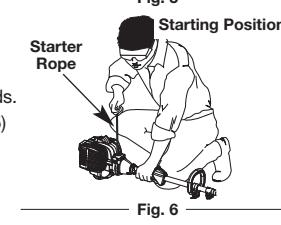

Fig. 6
WARNING: Avoid accidental starting. Make sure you are in the starting position when pulling the starter rope (Fig. 6). To avoid serious injury, the operator and unit must be in a stable position while starting.
- Crouch in the starting position (Fig. 6). Squeeze the throttle control lever. Pull the starter rope 5 times.